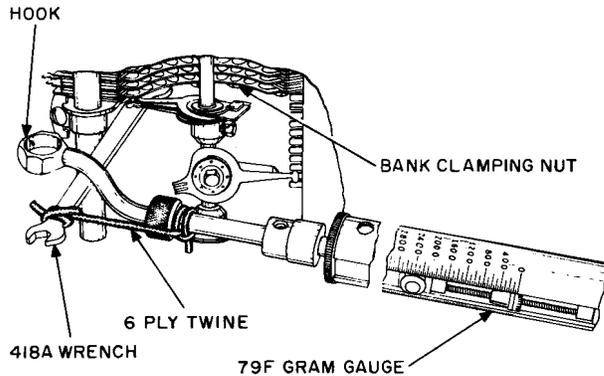

Fig. 6—Method of Checking for Tightness of Bank Clamping Nuts on Nonmechanized Banks Using 418A Wrench and 79F Gram Gauge
- (1) If the R-2771 spring balance is used, apply the hook 3/8 inch from the free end of the 418A wrench or 2 inches back of the free end of the KS-8237 wrench. If the 79F gauge is used, tie the hook end of the gauge to the 418A or KS-8237 wrench with a piece of 6-ply twine as shown in Fig. 6. Hold the wrench in position on the nut and gradually pull the gauge at right angles to the shank of the wrench as shown in Fig. 6 (in the direction to tighten the screw), until the reading of the R-2771 spring balance is 4 to 4-1/2 pounds. If the 79F gauge is used, the reading should be between 1800 and 2050 grams. Take care that the wrench does not slip